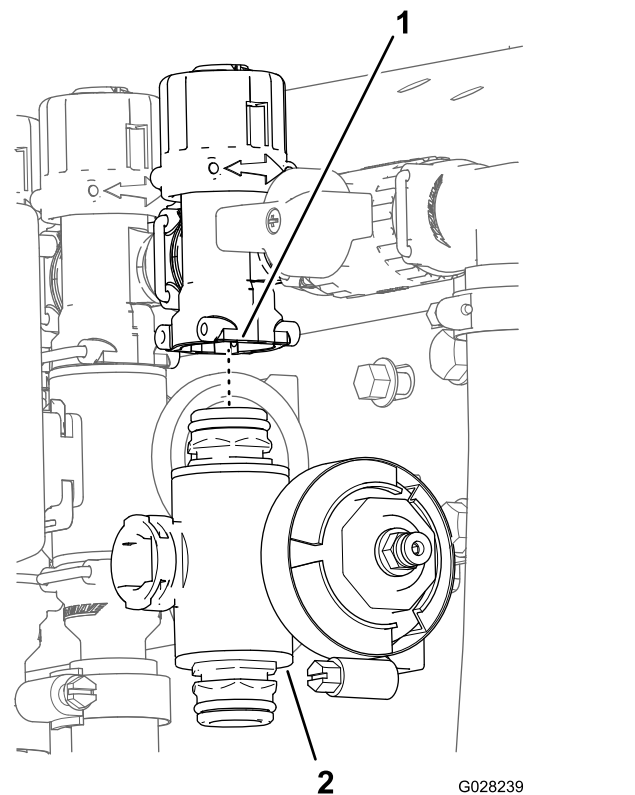

Figure 121
- For the left or right boom section valves, remove the flanged-head bolts and flanged locknuts that secure the section valve(s) to the valve mount and remove the valve manifold(s) from the machine; for the center section valve, remove the section valve manifold from the machine (Figure 121).